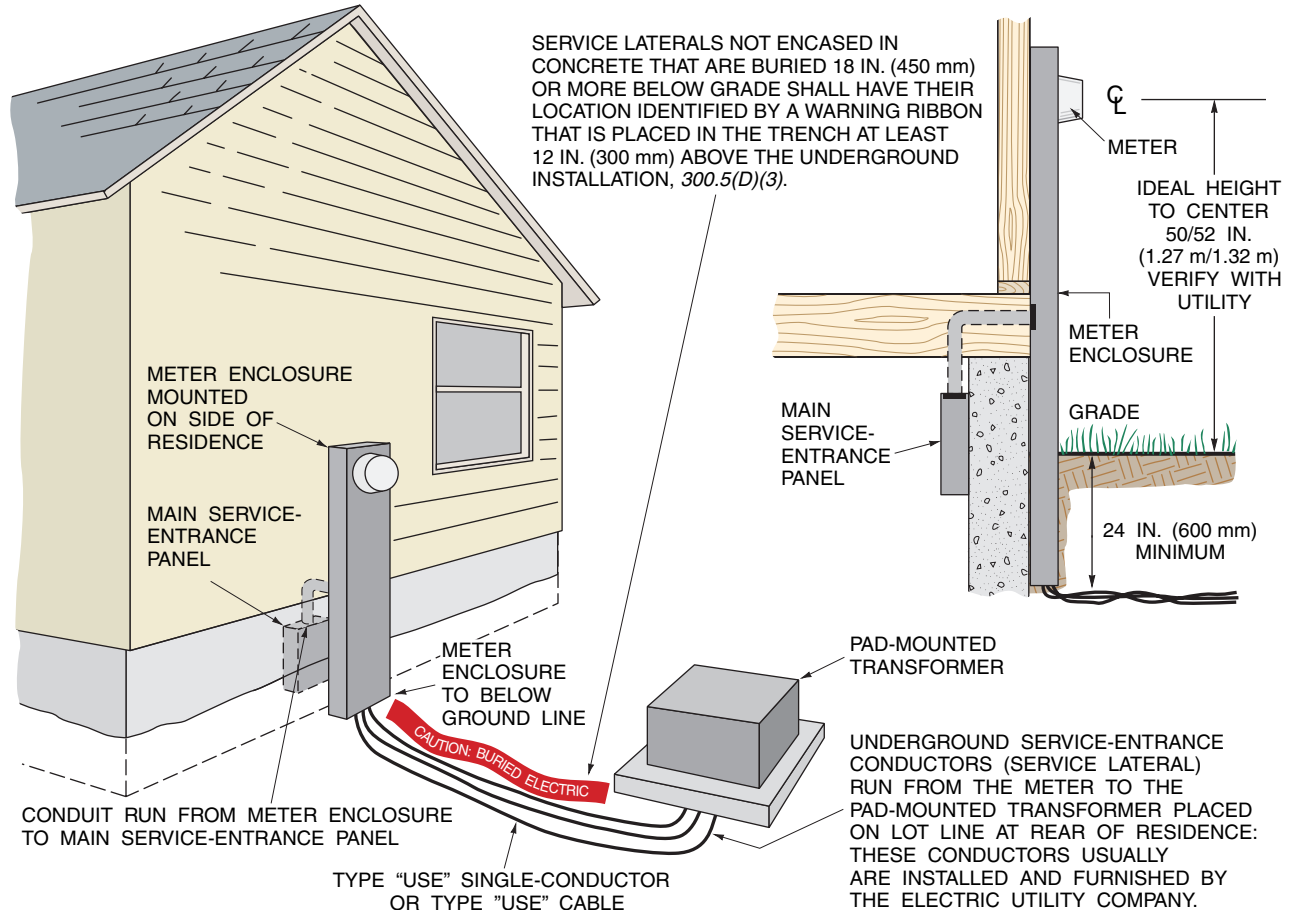
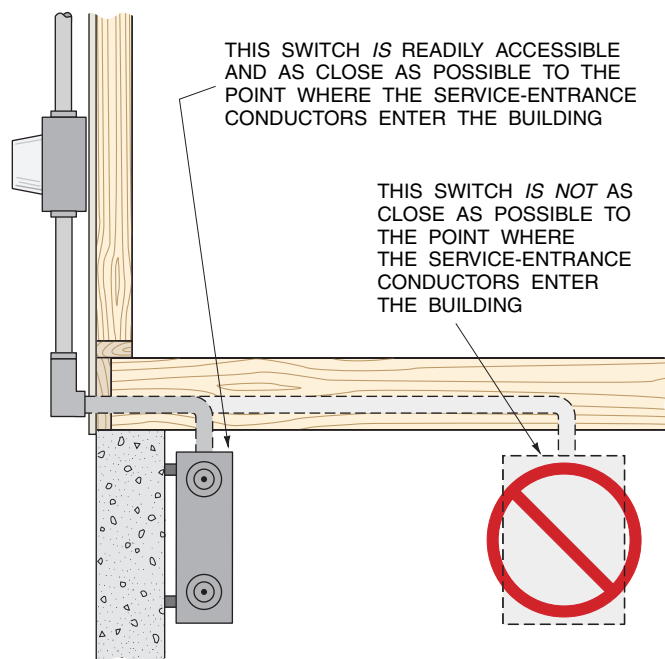
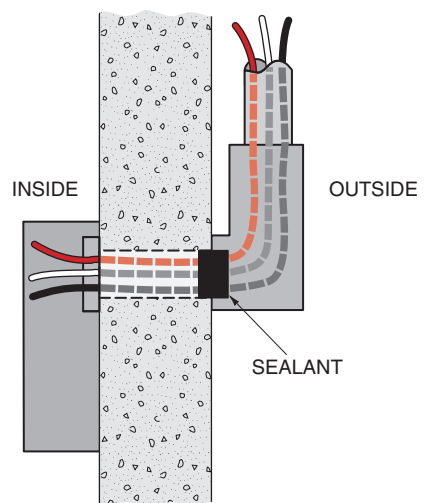

Figure 27-8 Underground service.
Figure 27-9 Main service disconnect location, 230.70. Do not install in a bathroom. Refer to 230.70(A)(2) and 240.24(E).
Figure 27-16 Installation of conduit through a basement wall.
Figure 27-7 The wiring of a typical service-entrance installation and *Code* rules for the system grounding. Refer also to Figure 27-2 and Figure 27-22. Today, most services are installed underground, as shown in Figure 27-8.
New residential developments often include underground installations of the high-voltage electrical systems. The conductors in these distribution systems end in the bases of pad-mounted transformers, Figure 27-8. These transformers are placed at the rear lot line or in other inconspicuous locations in the development. The transformer and primary high-voltage conductors are generally installed by, and are the responsibility of, the utility company.
the same trench. In some areas, but not too commonly, service laterals, communication cables, and gas lines are run in the same trench. Figure 27-8 shows a typical underground installation.
- be located inside the building at a readily accessible location nearest the point of entrance of the service conductors, Figure 27-9, or
Figure 27-8 shows a service supplied from an underground service. Figure 27-9 discusses the requirement that the main disconnect must be as close as possible to the point of entrance of the service-entrance conductors. Figure 27-15 shows a typical meter socket for an overhead service, usually mounted at eye level on the outside wall of the house. The service raceway or service-entrance cable is connected to the threaded hub (boss) on top of the meter socket. Figure 27-16 shows how to seal the raceway where it enters the building to keep out moisture.